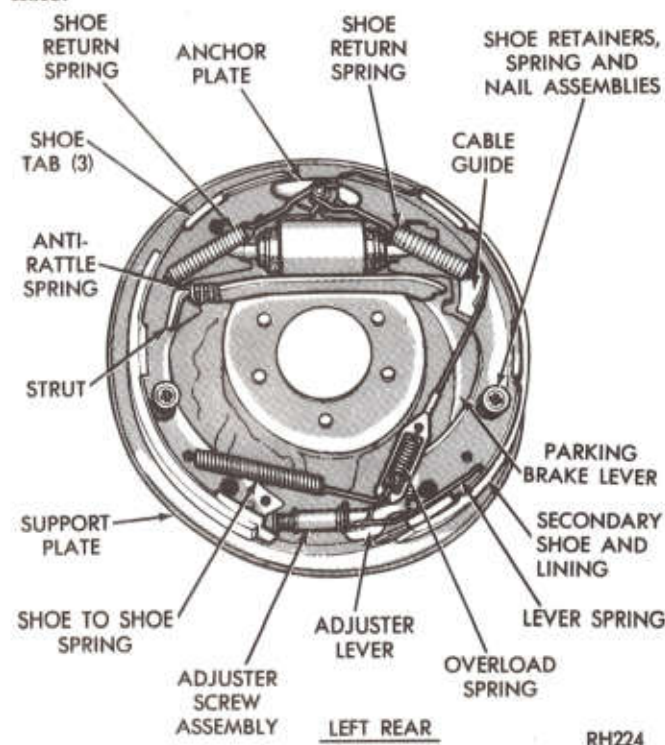
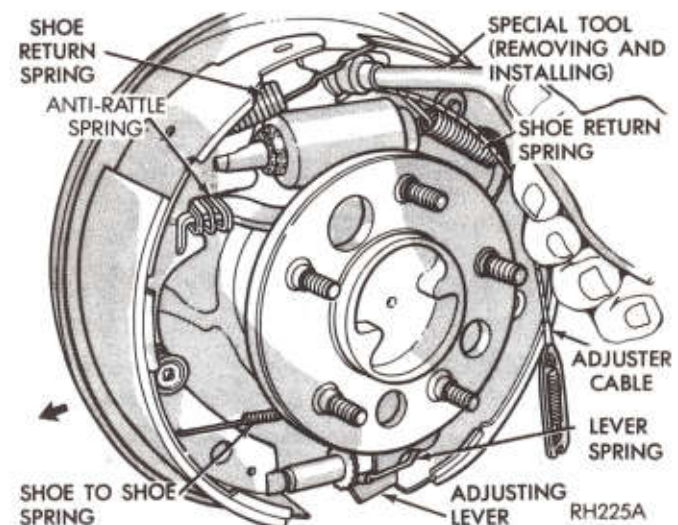
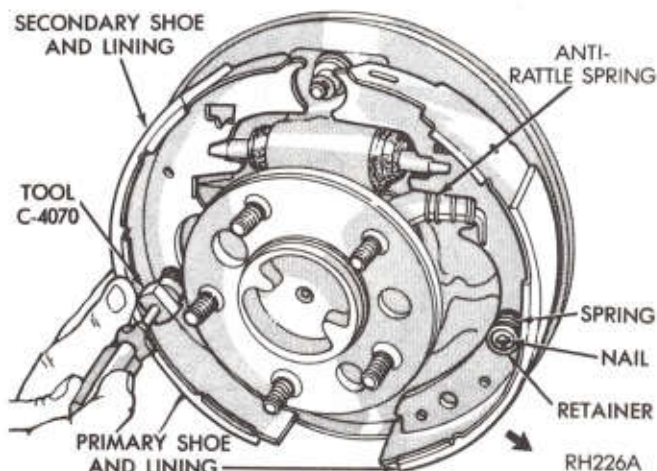

Fig. 1—Eleven Inch Brake Assembly
Fig. 2—Removing Shoe Return Springs
Fig. 3—Removing or Installing Shoe Retainers, Springs, and Nails
All drum brake applications are two shoe, internal expanding brakes with application adjusters. The lower ends of the brake shoes are connected by a tubular star wheel adjusting screw (Figs. 1 and 2).
- (1) Remove brake drum.
- (2) Using Tool C-3785, remove brake shoe return springs (Fig. 2). (Note how secondary shoe return spring overlaps primary shoe return spring) (Fig. 1).
- (3) Slide eye of automatic adjuster cable off anchor and then unhook from adjusting lever. Remove cable assembly, cable guide, and anchor plate.
- (4) Disengage adjusting lever from spring by sliding forward to clear pivot, then working out from under spring. Remove spring from pivot. Remove shoe-to-shoe spring from secondary shoe web and disengage from primary shoe web. Remove spring.
- (5) Disengage primary and secondary shoes and remove adjusting star wheel assembly from shoes.
- (6) Remove brake shoe retainers, springs and nails using Tool C-4070, (Fig. 3), and remove from support.
- (7) Remove parking brake lever from secondary shoes. Remove shoes.
- (8) Disengage parking brake lever from parking brake cable.